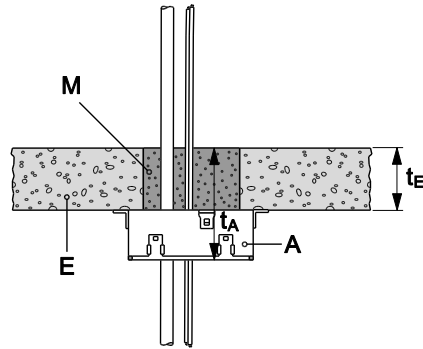

Figure 5: Seal type - Single sided for floor applications
For floor applications the annular space between services and floor edges (E) has to be filled out with normal gypsums and lime or cement-based mortars(M) with a compressive strength equal to or lower than 10 N/mm² (M1-M10 mortar according to DIN EN 980, e.g. HILTI CP 633), as displayed in Figure 5.
The single sided application of the Hilti Cable Collar requires mortar (see Figure 5) in the opening. (A1.2.4)